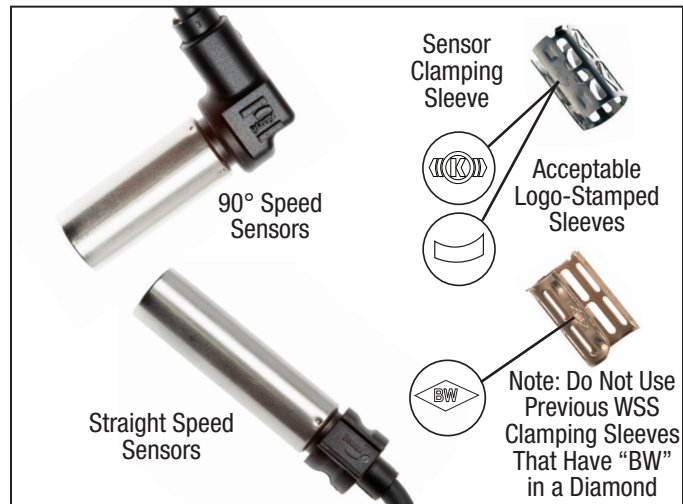

**Figure 4 – Trailer-Mounted ABS Indicator Lamp**
- **Lift-Axle Control:** The Bendix TABS-6 Advanced Multi-Channel (MC) module can be configured to automatically raise (and lower) lift-axle(s) when a pre-configured load is sensed.
- **Trailer Antilock Braking System (ABS) Indicator Lamp:** Controlled by the ECU to show the ABS status, the trailer ABS indicator lamp illuminates when a Diagnostic Trouble Code (DTC) is active. See *Figure 4*. If there are no ABS diagnostic trouble codes present, when ignition power is applied to the ECU, the lamp will illuminate as a bulb check lasting typically two (2), up to six (6) seconds at most. If LPWE is Active, WL will be ON until condition is clear.